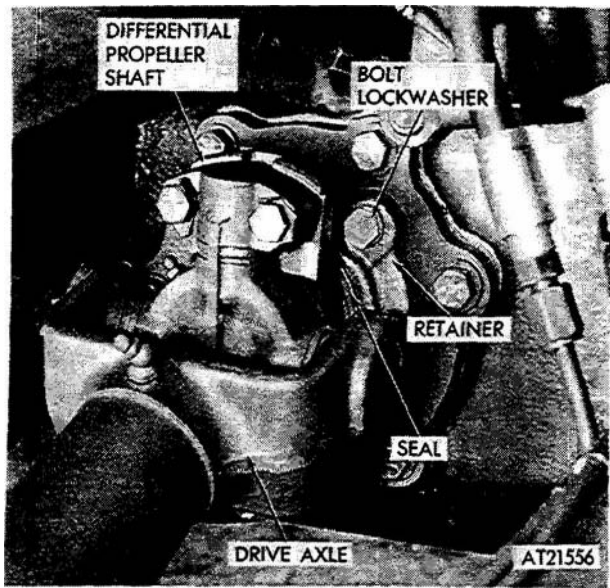

Figure 3-183. Differential propeller shaft seal, removal and installation.
(1) Using a suitable jack, jack and block vehicle.
(2) Drain lubricant from differential (refer to TM 9-2320-242-10).
(3) Disconnect drive axle (fig 3-183) from differential propeller shaft. (Refer to TM 9-2320-242-20.)
(3) Position assembled retainer and *new gasket* to differential and secure with four bolts and lock washers (fig. 3-183).
(4) Connect drive axle to differential propeller shaft. (Refer to TM 9-2320-242-20.)
(5) Remove blocks from vehicle and lower jack. Remove jack.
(6) Fill differential with proper lubricant (refer to LO 9-2320-242-12).